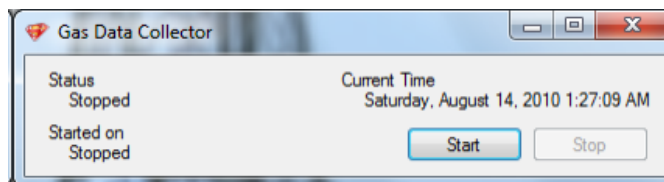

Figure 13. Gas Data Collector.
6. Once WinDaq is communicating with the data logger, start the *Gas Data Collector* software (*Figure 13*) (http://web.ship.iodp.tamu.edu/tasapps/gasmonitor_).